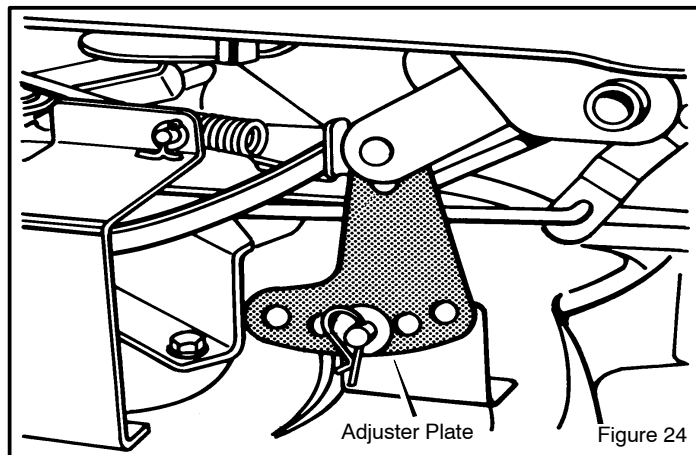

Figure 24
1. Disconnect the **adjuster plate** from the mower housing (Figure 24).